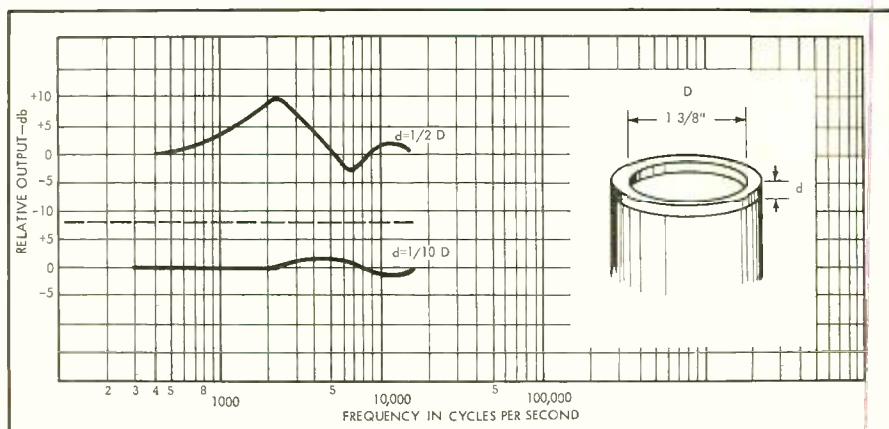

Fig. 4. Effects of clamping ring (cavity resonance).
(d) and its diameter (D). Figure 4 shows the effects of such a resonance and clearly demonstrates that for it to have negligible effect, the depth of the cavity, and thus the thickness of the clamping ring, should not be greater than $1/10$ the diameter.